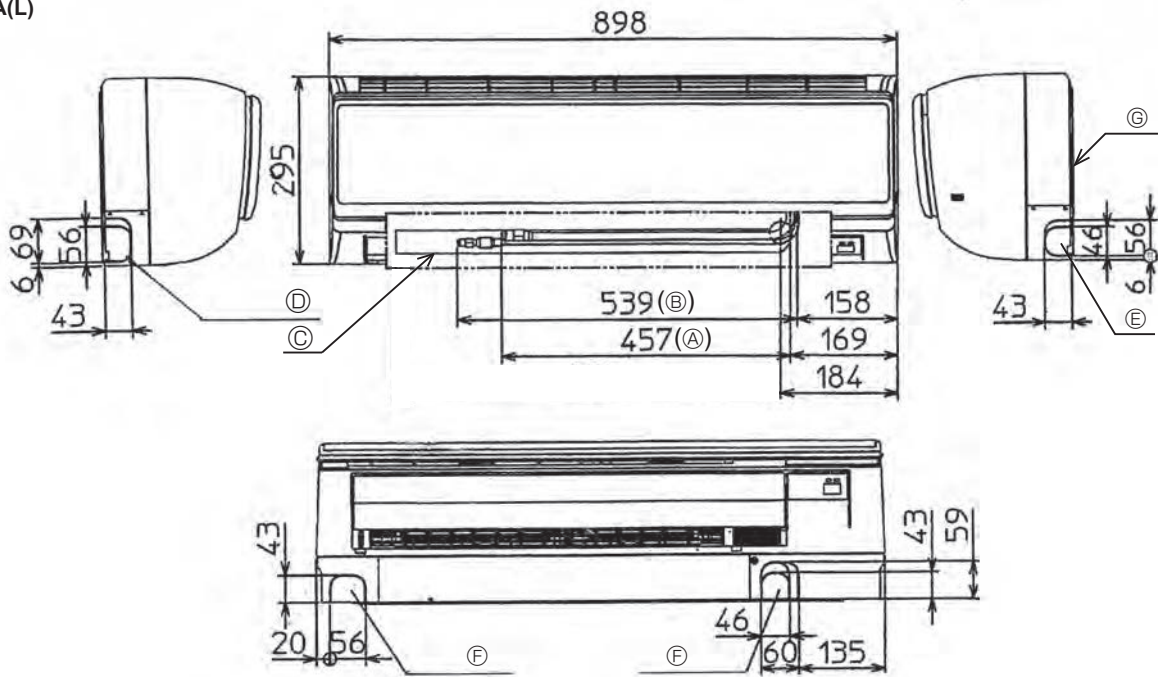
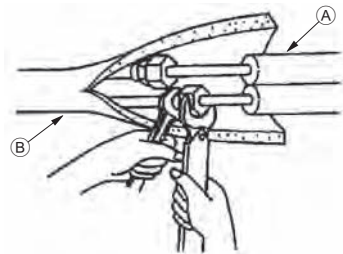

Fig. 4-3
Fig. 4-4
4.4. Positioning refrigerant and drain piping (Fig. 4-3)
- Ⓖ Mount board ①
4.5. Refrigerant piping (Fig. 4-4)